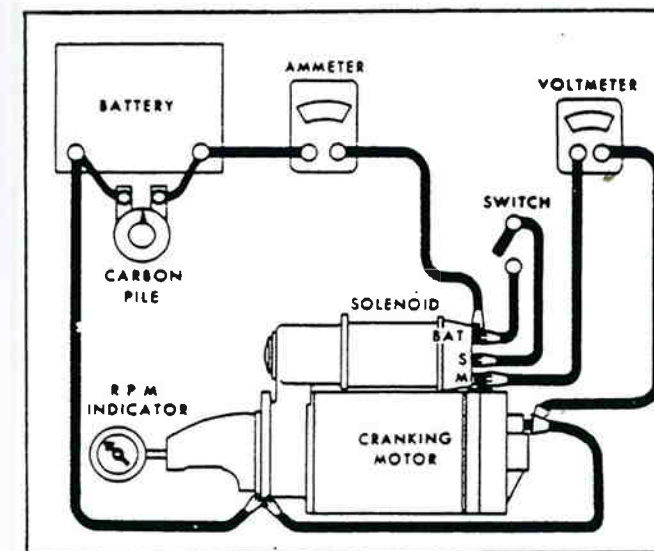

Figure 7-37. No-Load Test Setup.
1. Connect a voltmeter from the motor terminal to the ground return terminal, and use an RPM indicator to measure armature speed. See figure 7-37.